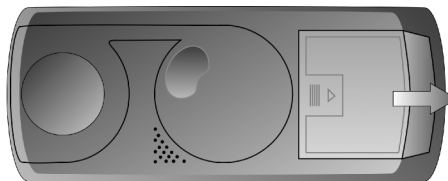

Figure 51. Removing the battery compartment cover.
4. Press down lightly on the battery compartment cover and push the cover in the direction of the arrow, then rotate the cover upwards (Figure 51 on page 95).